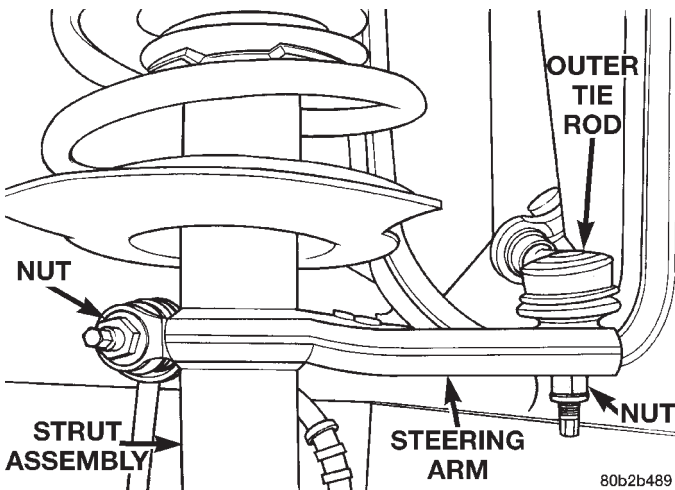

**Fig. 50 Stabilizer Bar Link At Strut**
(4) Remove the right stabilizer bar attaching link nut at the strut assembly. Remove the attaching link from the strut assembly (Fig. 50).
(13) Install outer tie rod on strut assembly. Install tie rod attaching nut (Fig. 50). Tighten the tie rod attaching nut to a torque of 37 N·m (27 ft. lbs.).
(14) Install stabilizer bar link on strut (Fig. 50). Tighten the stabilizer link attaching nut to a torque of 95 N·m (70 ft. lbs.).
(15) Install the right front wheel and tire assembly.